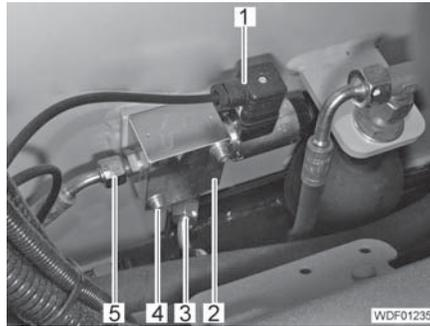

Fig. 215 2/2-way valve
- Unscrew screw on plug (Fig. 215,1), remove plug and protect the contacts (e.g. with protective cap).
- Unscrew and close off the 2 hydraulic lines (Fig. 215,3 and 5).
- Unscrew the 2 screws (Fig. 215,4).
- Remove the 2/2-way valve (Fig. 215,2).
- Insert and tighten 2 screws (Fig. 215,4) with spring lock washers and disks.
- Screw the 2 hydraulic lines (Fig. 215,3 and 5) onto the connections on the 2/2-way valve and tighten.
- Attach the plug (Fig. 215,1) to the contacts and secure it with a screw.